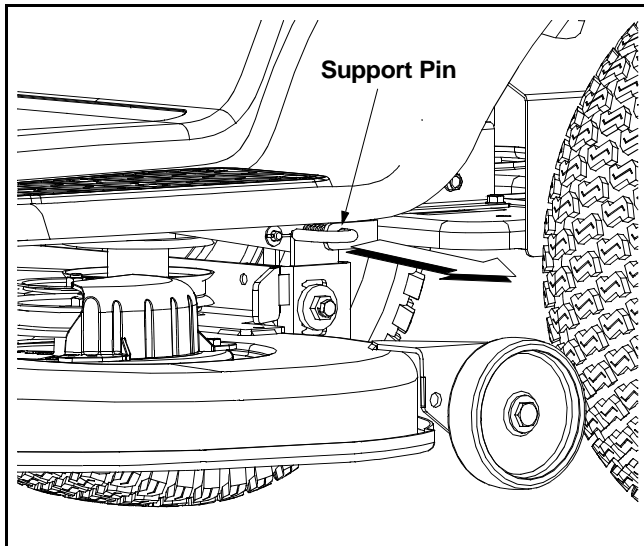

Figure 25
- Looking at the cutting deck from the left side of the tractor, locate the deck support pin on the rear left side of the deck. Refer to Figure 25.
- Pull the deck support pin outward to release the deck from the deck lift arm. See Figure 25.